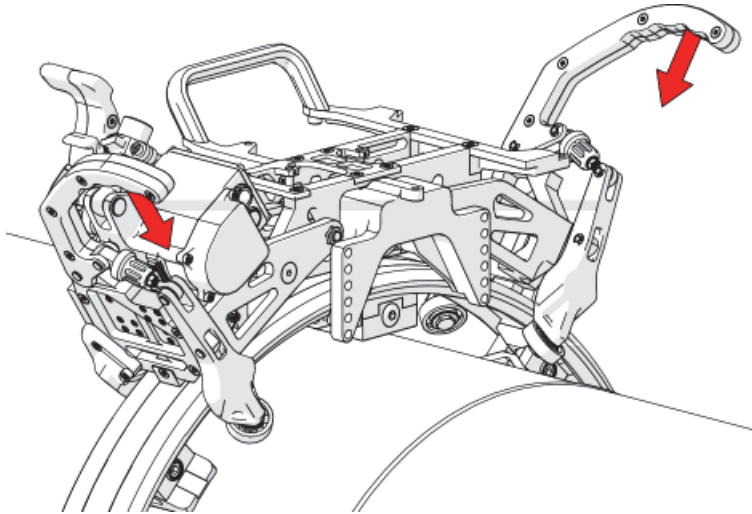

Figure 1-34 Locking the band clamp levers
4. Lower the band clamp levers to lock the clamp to the band (see Figure 1-34 on page 51).